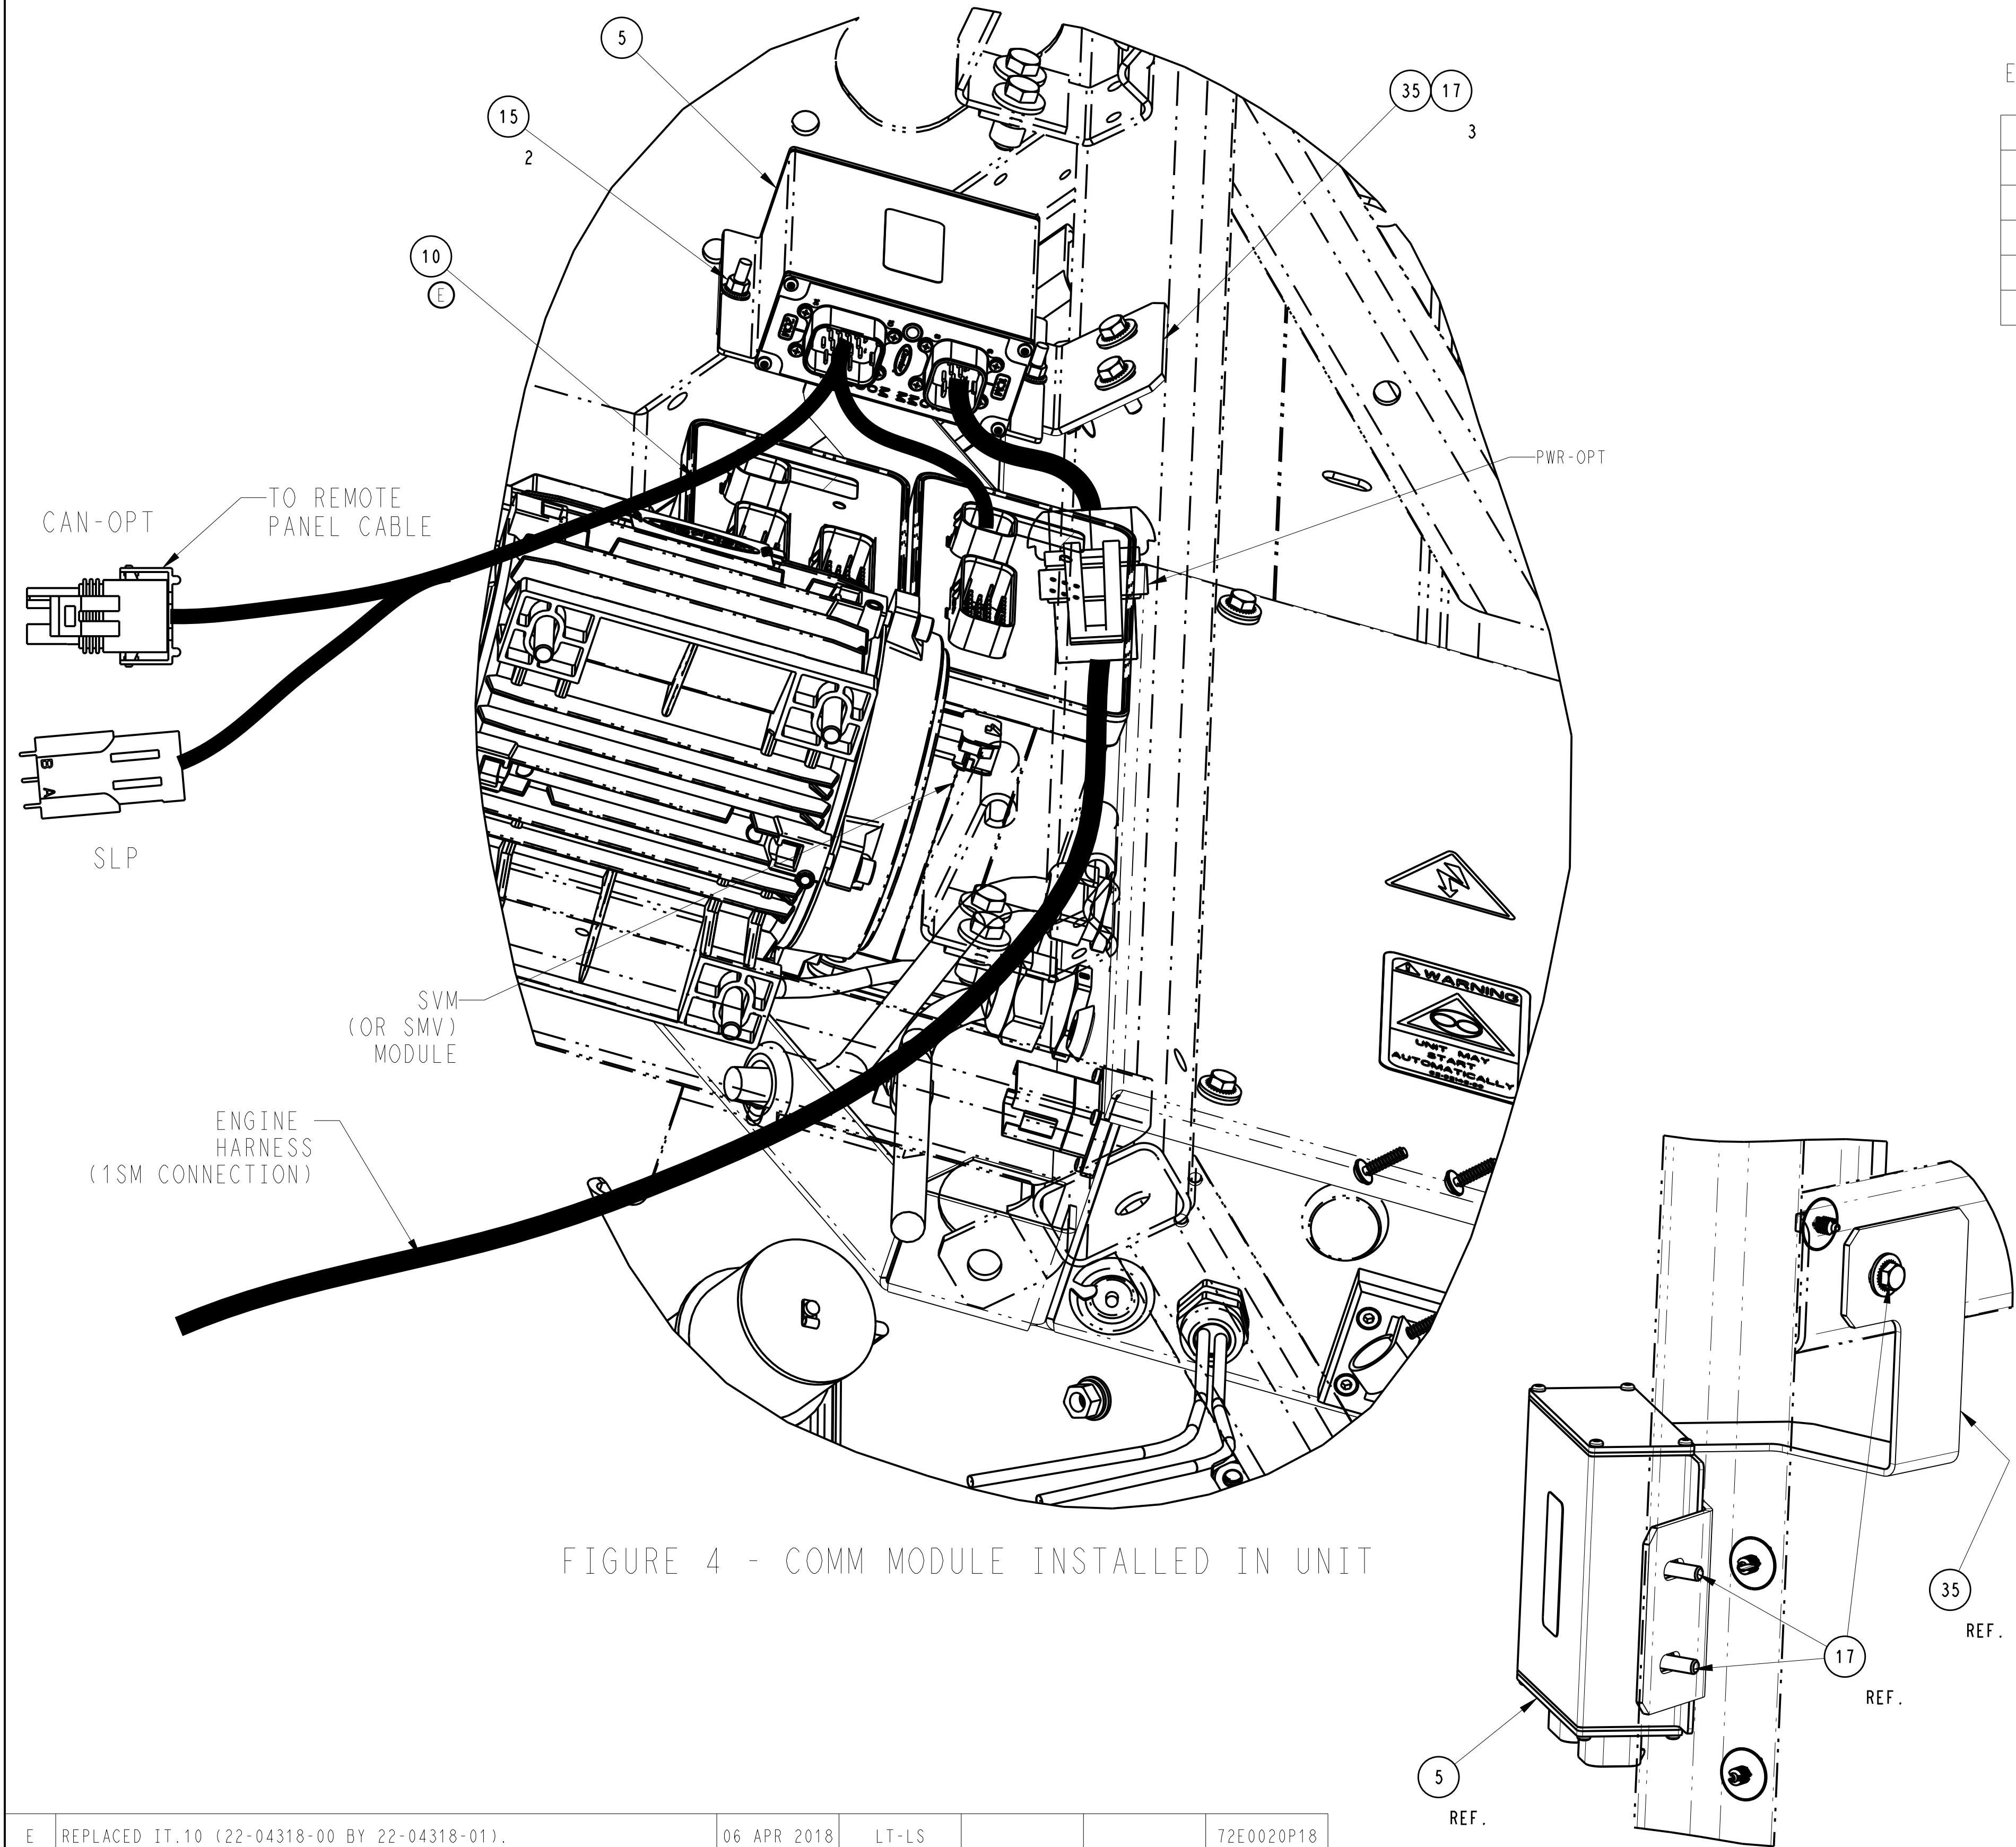

FIGURE 4 - COMM MODULE INSTALLED IN UNIT
- 7.0 INSTALL THE COMM MODULE SPLITTER HARNESS AS SHOWN IN FIGURE 4, BY PLUGGING ITS 14-PIN CONNECTOR INTO THE COMM MODULE AT 2CM, AND ITS 8-PIN CONNECTOR INTO THE SVM MODULE.